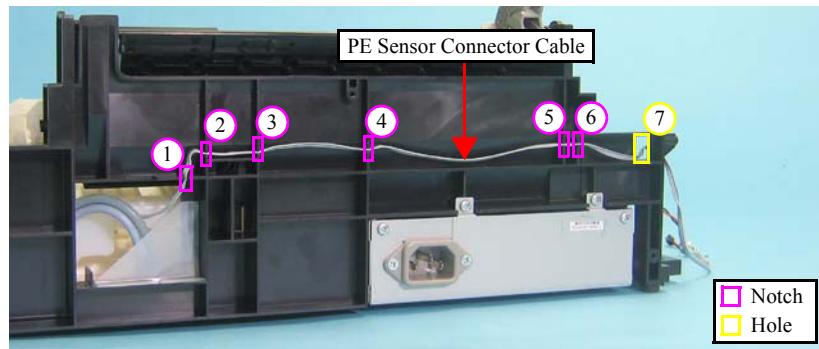

Figure 4-91. Releasing the PE Sensor Connector Cable
- Route the cable in the order given in Figure 4-91.